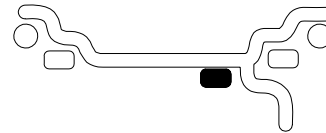

Figure 20
**B. STATIC** (single plane - Figure 20). Suggested for narrow rims (3” or less). Use a single corrective weight placed in the center of rim as illustrated in Figure 20.